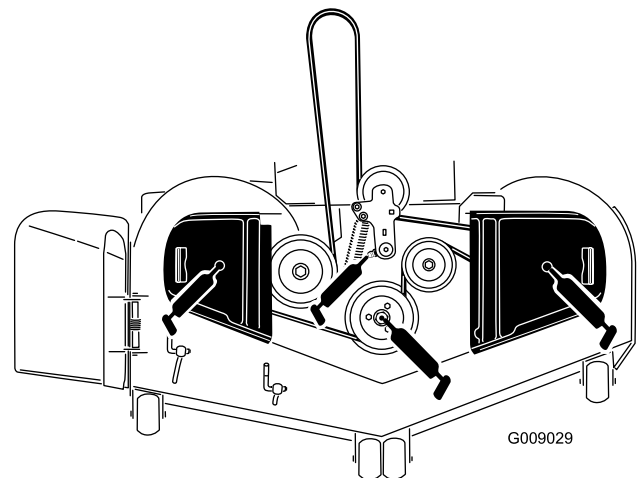

Figure 46
3. Grease the mower deck idler-pulley pivot until grease comes out the bottom (Figure 46).
4. Grease the 3 spindle bearings until grease comes out (Figure 46).
5. Grease the drive-belt-idler arm (Figure 46).